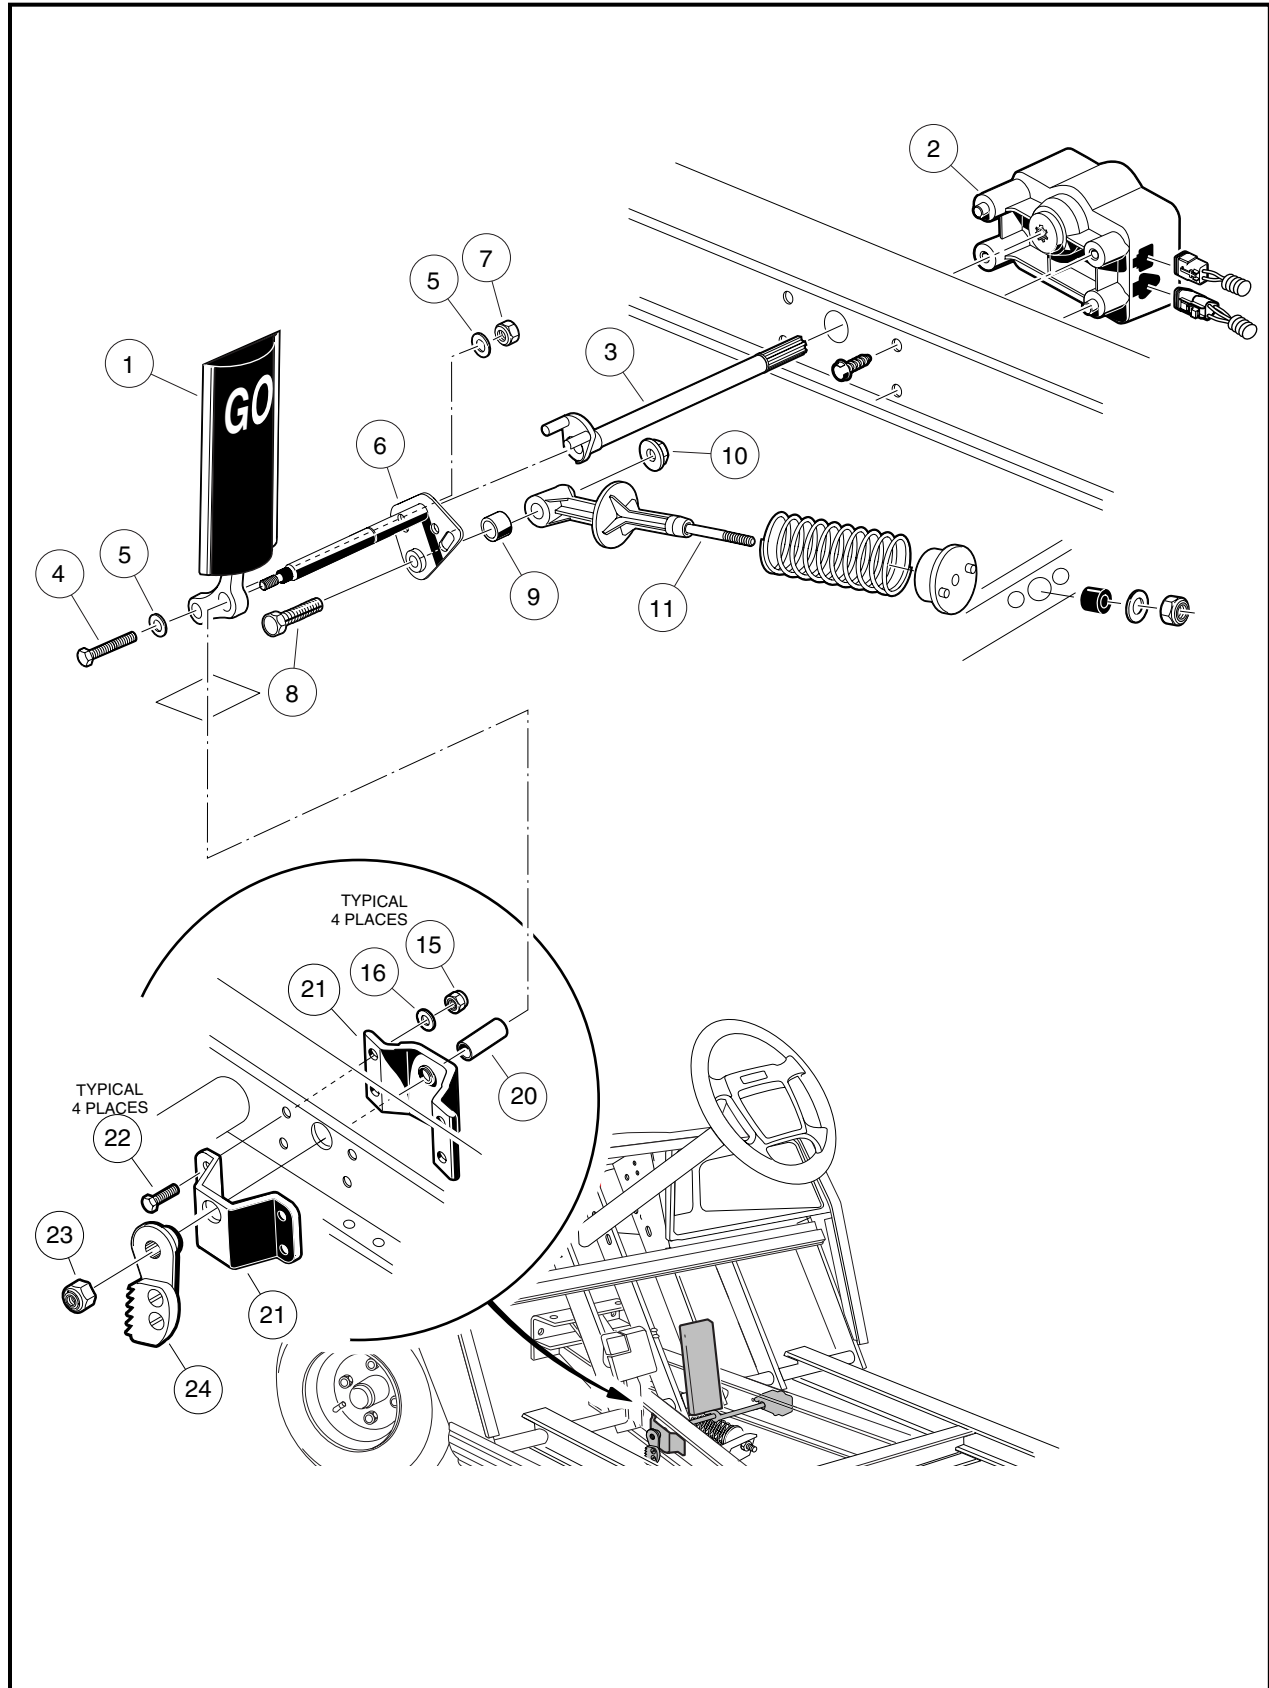

Figure 5-8 Accelerator Pedal – Electric Vehicle
3. Remove the MCOR (2) and drive bar (3) as instructed (**Figure 5-8, Page 5-10**). See **MCOR Removal, Section 12, in the appropriate maintenance and service supplement**.
4. Using a 9/16-inch socket and 9/16-inch wrench, remove the nut (7), two washers (5), and bolt (4) securing the accelerator pedal (1) to the pivot rod (6) (**Figure 5-8, Page 5-10**).
5. Remove the nut (10) and bolt (8) from the accelerator pivot rod assembly (6).
6. Slide the spring retainer (11) off of the accelerator pivot rod.
7. Inspect the pivot support bearing (9) for wear and replace if necessary.
8. Use a marker to mark the position of the park brake ratchet (24) on the accelerator pivot rod (6). See following **NOTE**.
9. Remove the lock nut (23) from the accelerator pivot rod.
10. Depress the brake pedal slightly and slide the park brake ratchet (24) toward the end of the accelerator pivot rod. Rotate the ratchet and remove it from the pivot rod.
11. Remove the pivot rod (6) and spacer (20) from the accelerator pivot rod supports (21) (**Figure 5-8, Page 5-10**).
12. Inspect the accelerator pivot rod supports (21) for wear and damage and replace as necessary. If the pivot rod supports do not require replacement, loosen, but do not remove, the four bolts (22) and lock nuts (15) to make installation of the pivot rod easier.
13. Remove the accelerator pedal (1) from the vehicle (**Figure 5-8, Page 5-10**).
1. If the accelerator pivot rod supports were replaced, position the supports (21) on the vehicle frame and install the four bolts (22), flat washers (16), and lock nuts (15) (**Figure 5-8, Page 5-10**). finger-tighten nuts at this time.
2. Insert the lower end of the accelerator pedal (1) through the floorboard and install the accelerator pivot rod (6) through the uppermost hole in the pedal.
3. Install plastic spacer (20) on pivot rod (6).
4. Insert the pivot rod through the pivot rod supports (21) on the vehicle frame.
5. Tighten the four bolts (22) attaching the pivot rod supports to the frame to 75 in-lb (8.5 N·m) (**Figure 5-8, Page 5-10**).
6. Insert the bolt (4), two washers (5), and a new lock nut (7) through the lower hole in the pedal and through the pivot rod. Finger tighten lock nut at this time.
7. Install the bolt (8) through the pivot rod (6) and spring retainer (11). Secure these parts with the nut (10) (**Figure 5-8, Page 5-10**). Tighten the nut to 50 in-lb (5.5 N·m).
11. Install lock nut (23) on pivot rod (**Figure 5-8, Page 5-10**). Tighten to 18 ft-lb (24.5 N·m).
12. Install the MCOR (2) and drive bar (3) as instructed. **See MCOR Removal, Section 12, in the Power-Drive Maintenance and Service Supplement.**